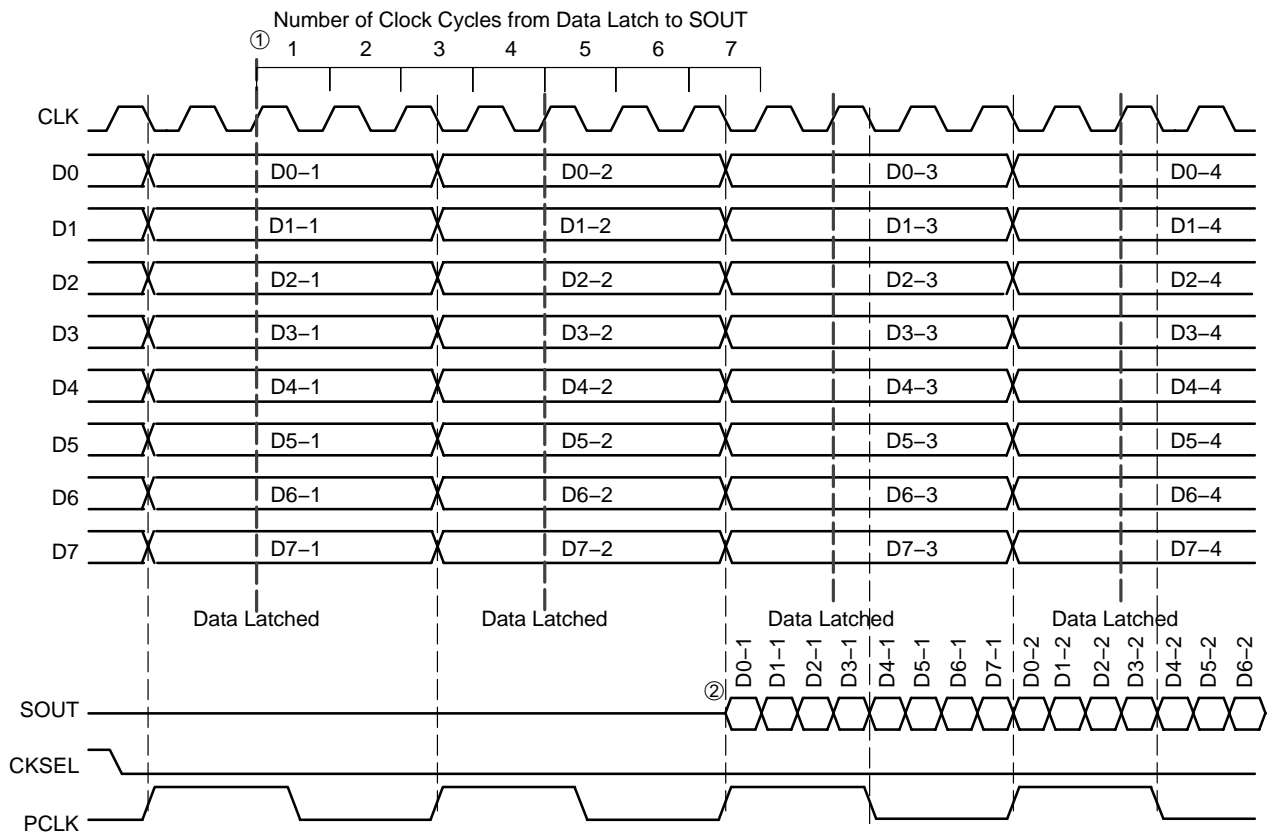

Figure 6. Timing Diagram 1:8 Parallel to Serial Conversion with CKSEL LOW
The CKSEL input (Pin 2) is provided to enable the user to select the serial data rate output between internal clock data rate or twice the internal clock data rate. For CKSEL LOW operation, the time from when the parallel data is latched ① to when the data is seen on the SOUT ② is on the falling edge of the 7th clock cycle plus internal propagation delay (Figure 6). Note the PCLK switches on the falling edge of CLK.